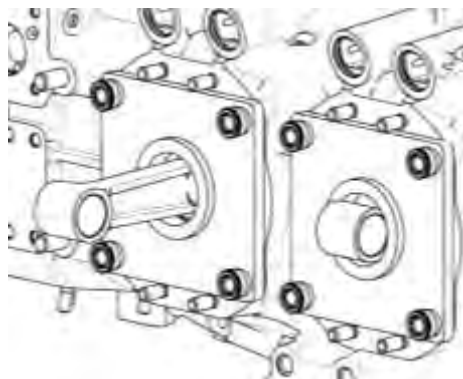

Figure 96
- (10) Lubricate the threads of each crankcase thru-stud with the specified lubricant identified in the latest revision of Service Instruction No. SI-1029.
- (11) Install the Torque Hold-Down Plate (ST-222, Figure 96) on the cylinder pads over the thru-studs.